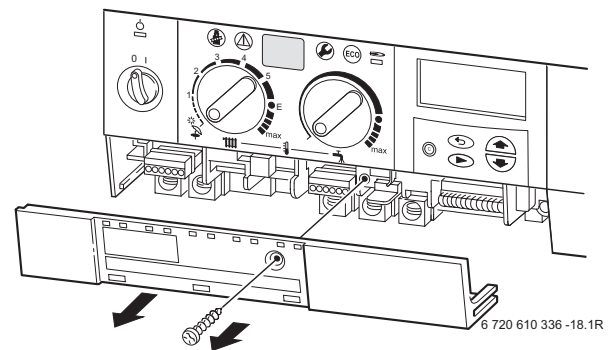

Fig. 25
- Remove screw and slide terminal cover forwards to remove. Refer to fig. 25.